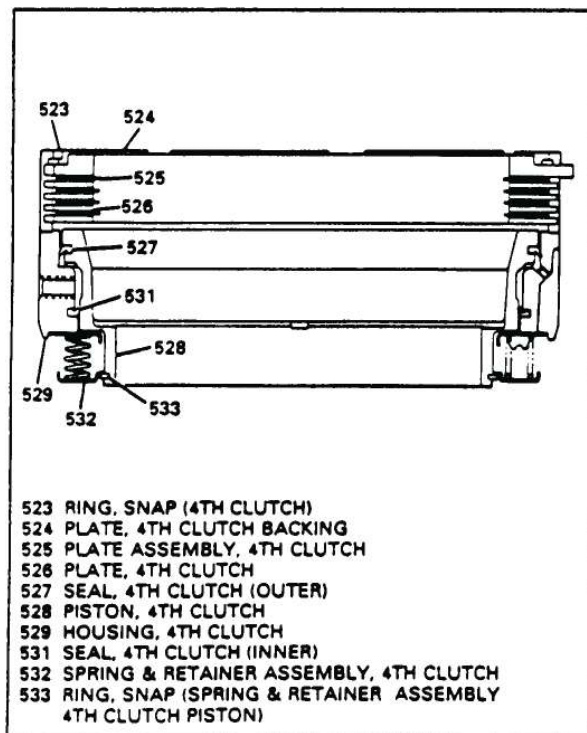

Figure 89
20. Turn the 4th housing assembly over and install 4 steel plates, and 4 lined plates, starting with a steel plate and alternating. (See Figure 89).